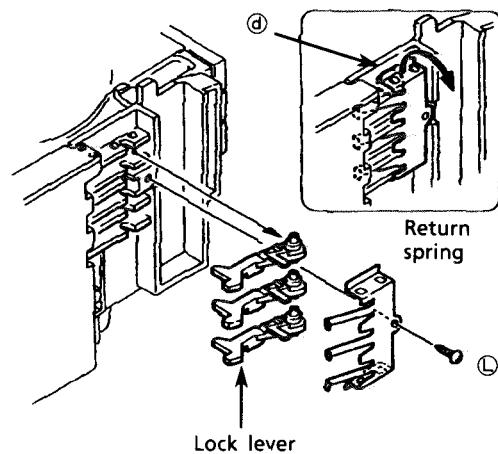
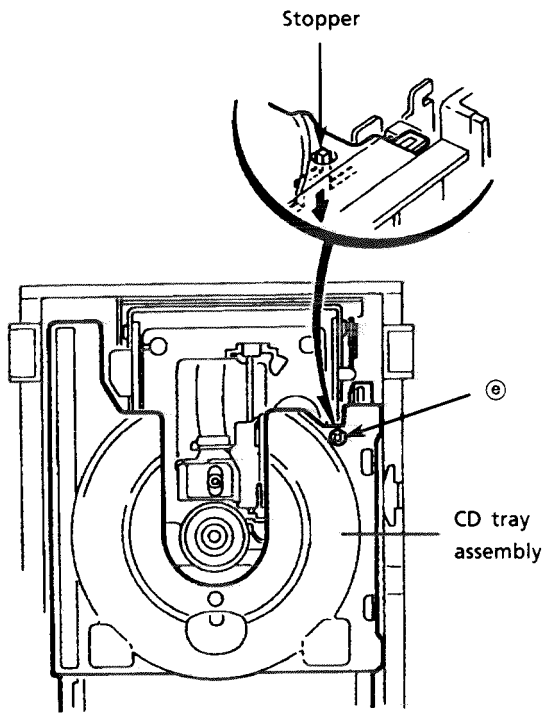

Fig.22
Fig. 23
7. Remove a screw ⑧ which secures the return spring and lock levers from the chassis ass'y.(See Fig. 22.)
8. Remove 2 pawls ⑨ which slightly secure the return spring to remove it.
10. Check that the lifter unit stopper is inserted into hole ⑩ located on CD tray ass'y. (See Fig. 23.)